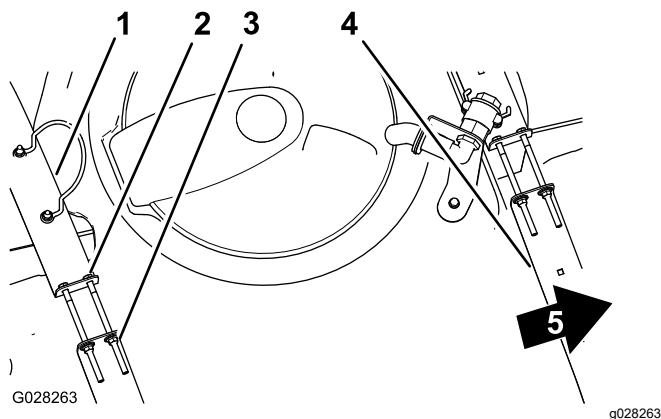

Figure 84
2. Check to see if there is any movement between the tank straps and the tank (Figure 84).
3. If the tank straps fit loose to the tank, tighten the flanged locknuts and bolts at the top of straps until the straps are flush with the surface of the tank (Figure 84).